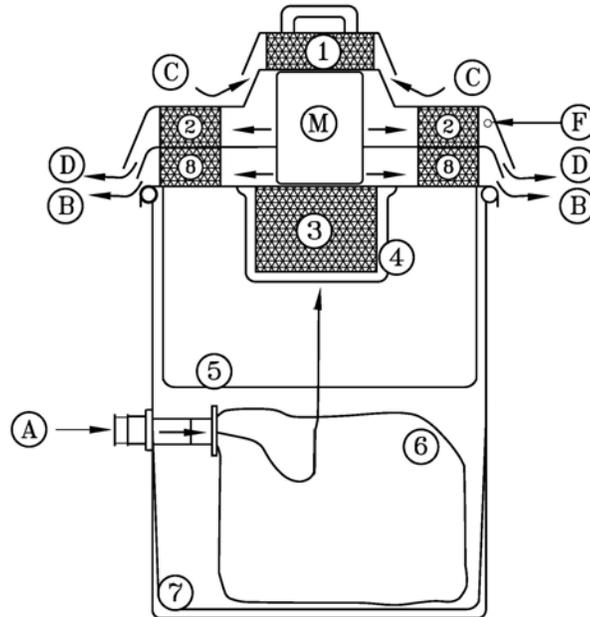

Figure 1
2. Place the poly liner (item # 7 on Fig. 1) at the bottom of the tank
3. Place the collection bag (item # 6 on Fig. 1) in the recovery tank on the air intake
4. Place the main cloth filter (item # 5 on Fig. 1) on the recovery tank. Make sure that the filter's gasket covers the circumference of the recovery tank lip.
12.1 REPLACEMENT OF THE HEPA FILTER FOR MOTOR COOLING AIR INTAKE (ITEM #1 ON FIG. 1 SEE SECTION 7 FOR ILLUSTRATION)
12.2 REPLACEMENT OF THE HEPA FILTER FOR MOTOR COOLING AIR EXHAUST (ITEM #2 ON FIG. 1 SEE SECTION 7 FOR ILLUSTRATION)